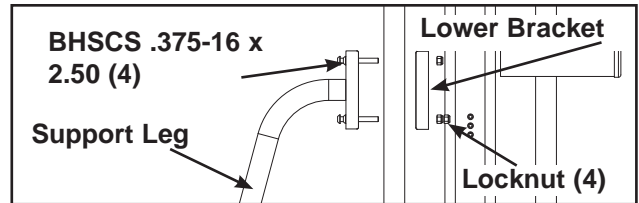

Figure 2
- A. Align holes of support leg with holes on frame. See Figure 2. Push BHSCS (supplied in kit) through holes of support leg and frame.
- B. Place lower bracket on BHSCS from step 6A. See Figure 2.